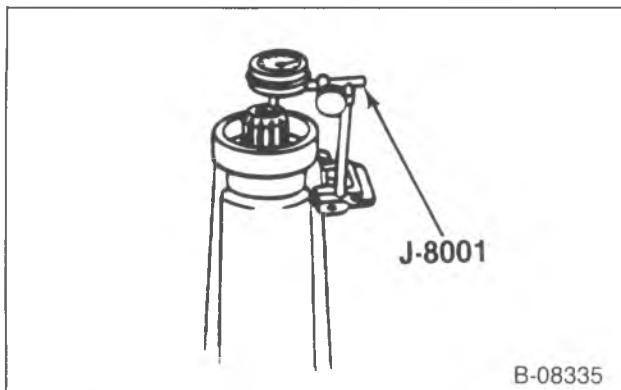

Figure 36—Measuring Mainshaft End Play
- Front thrust race (611) and a new snap ring (5 speed only).
- Countergear thrust bearing (612).
- Plastic funnel (615) into the bearing (5 speed only).
- Extension housing (613) and the screws.
- Turn the transmission on end and mount a dial indicator on the extension housing (figure 36).